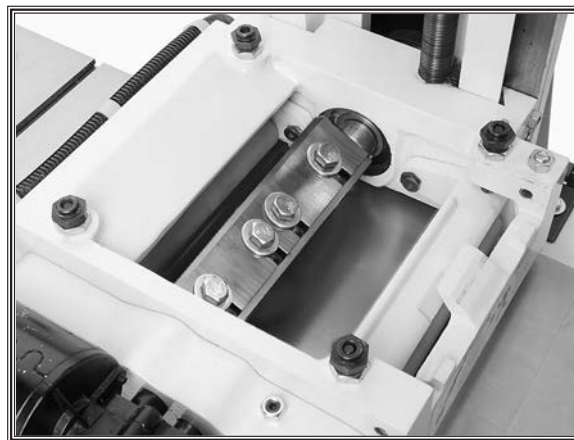

Figure 24. Planing knives installed.
7. Visually inspect to make sure that the planing knife did not move away from the cutterhead lip (see **Figure 24**) during the tightening process. If so, reinstall the knife until it is correctly seated.